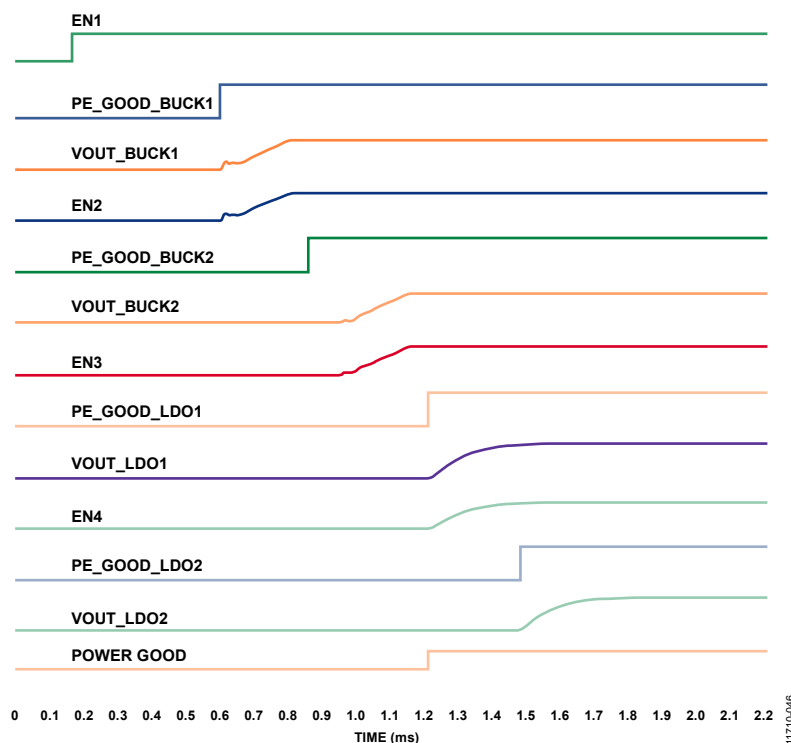

Figure 46. Regulator Sequencing on the ADP5134, Shutdown Control and Precision Enable Thresholds with PG Monitoring BUCK1 Only
A power-good output is available at Pin 6 (PG) to monitor the output voltage of any combination of the four regulators. The PG output can also be factory programmed to monitor a specific regulator channel, such as BUCK1, as shown in Figure 46. The PG pin can connect to a pull-up current to drive external regulators or other circuits. In this configuration, the PG pin goes high when the channels monitored are in regulation and goes low when the output voltage falls below 90% of the nominal  $V_{OUTX}$  level. The PG pin can also drive an LED for fault monitoring. For example, in this configuration, a red LED is biased, and current sinks into the PG pin when the output voltage falls below 90% of the nominal  $V_{OUTX}$  level. This turns the LED on, and, when the output voltage is in regulation, turns it off.
Figure 46 shows the activation timings for the ADP5134 when regulators are in sequence, VOUT1 controlling EN2, VOUT2 controlling EN3, and VOUT3 controlling EN4. Also shown is the power-good signal monitoring BUCK1 only.